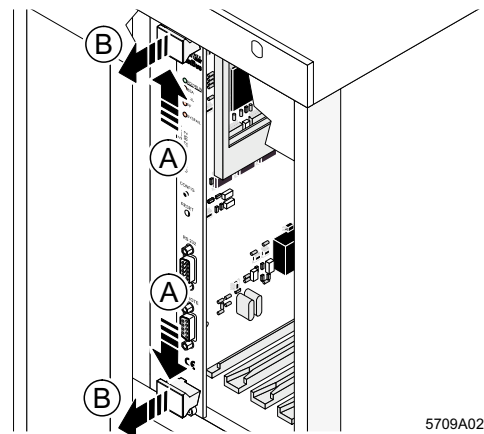

Figure 28 Removing the controller board
- Remove the controller board from the control system (see Figure 28).